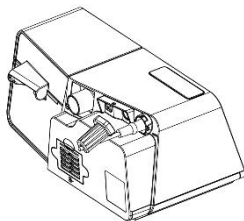

Fig. 12-5
- (1) Connect the device to power according to 12.3 Connecting Power Supply.
- (2) Clip the narrow end of the power cord locker to the cord of the power adapter, as shown in Fig. 12-5.